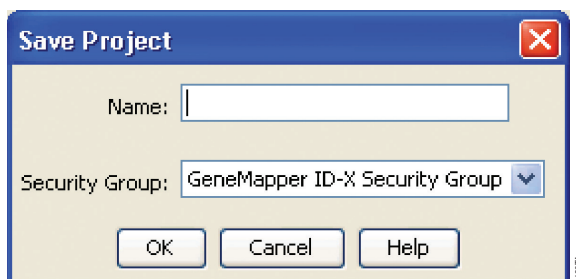

Figure 28. 'Save Project' Window.
9. If all analysis requirements are met, the 'Save Project' window will open (Figure 28).